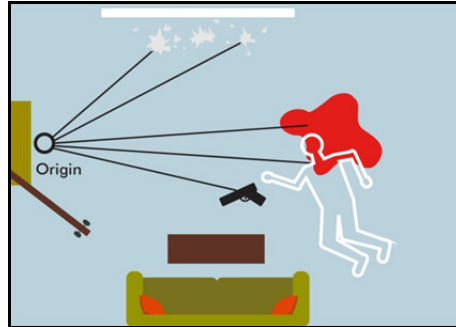

Figure 12
- All three data collection methods also work for indoor crime scenes. The results will be the same except on a smaller scale. Figure 12 shows an example of an indoor crime scene, measured using the Radial with Angle method. The investigator was positioned in a doorway and took shots to the broken window glass, the body, the gun, and the pool of blood.